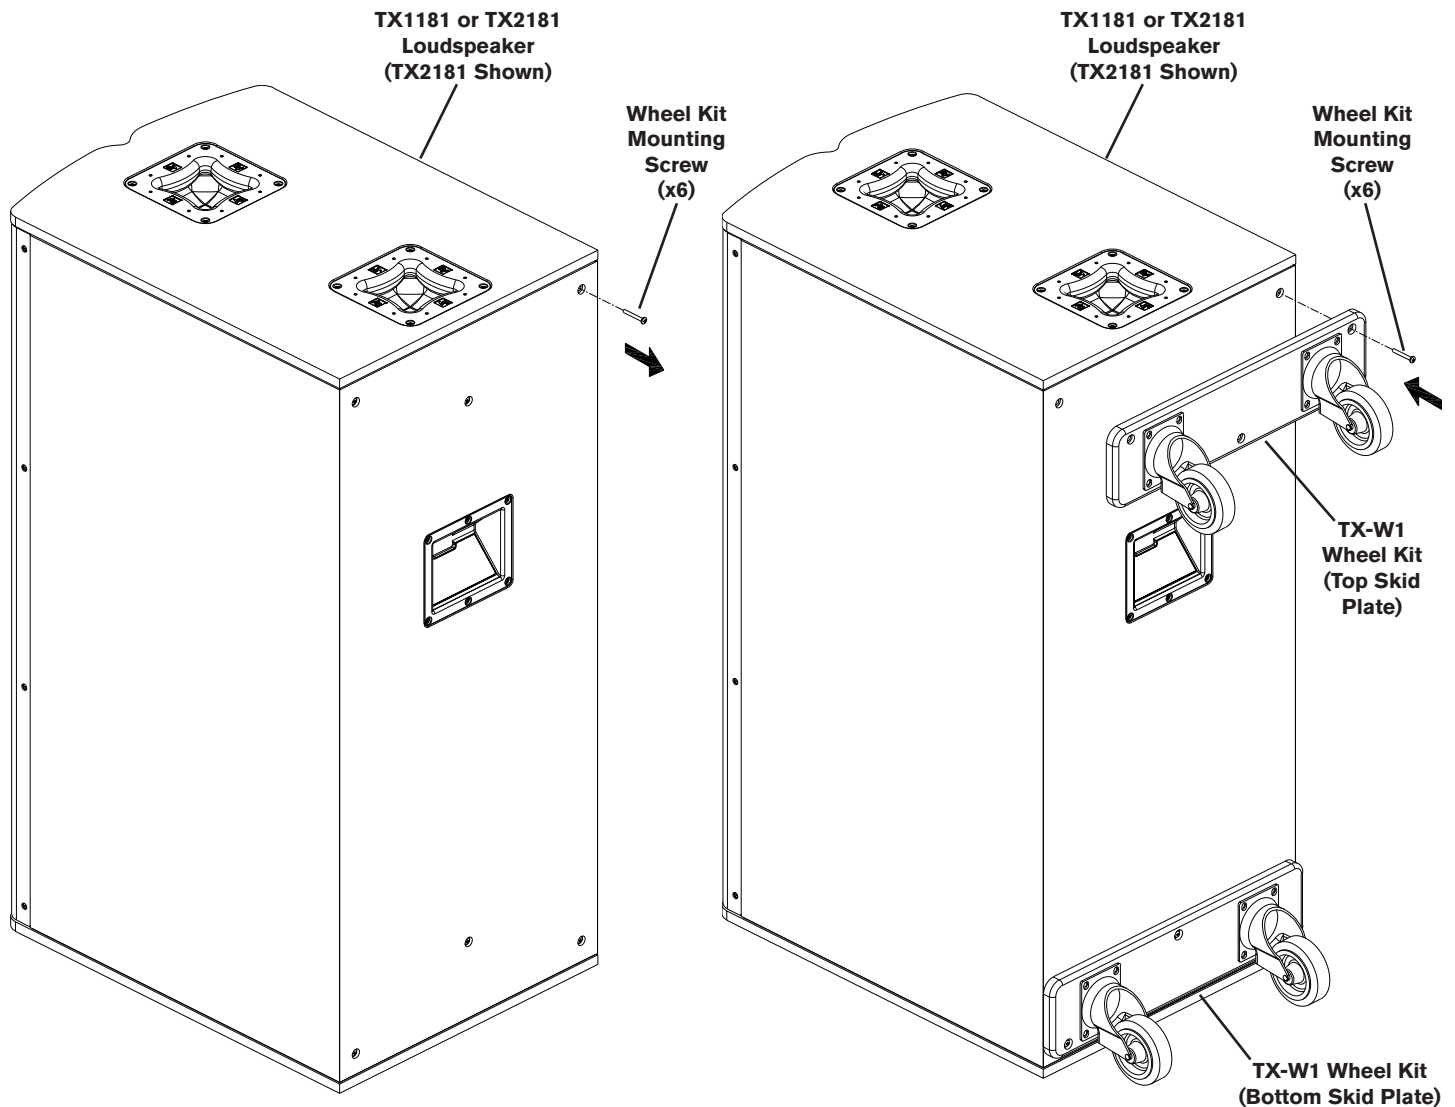

Figure 13:
1. Remove the (6) screws on the rear of the TX1181 or TX2181 loudspeaker (Figure 13).